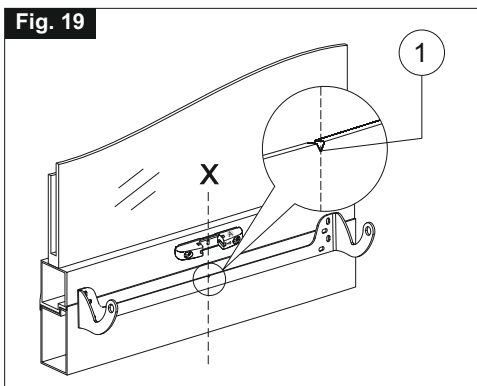

Fig. 20
- 7) Position the bracket on the frame, aligning it to the profile of the frame within a distance of about 3 mm, as indicated in **Fig. 20**, and mark the drilling points;